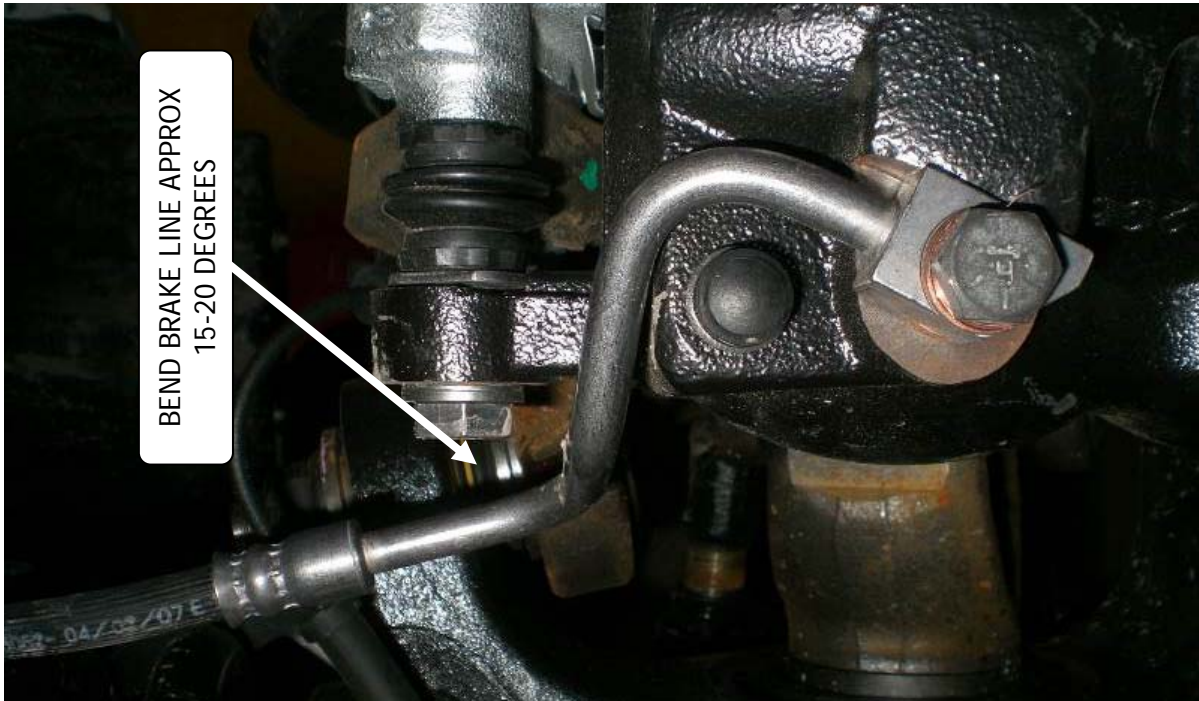

Figure 1
(Refer to Figure 1, Figure 2, and Figure 3)
- A. Using a tube bender, bend the brake line at the brake calliper approximately 15 - 20 degrees away from the wheel. (Figure 1).